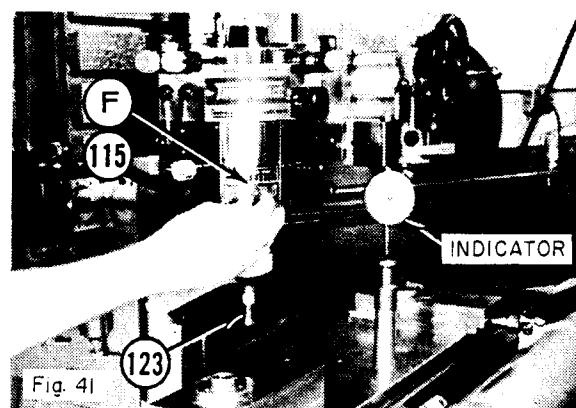

Fig. 41
b. Turn off the Pressure Shutoff Valve (A). This will keep the X and Y sectors from drifting in any direction while you are making the adjustment. With the aid of a dial indicator, as shown in Fig. 41, proceed as follows: